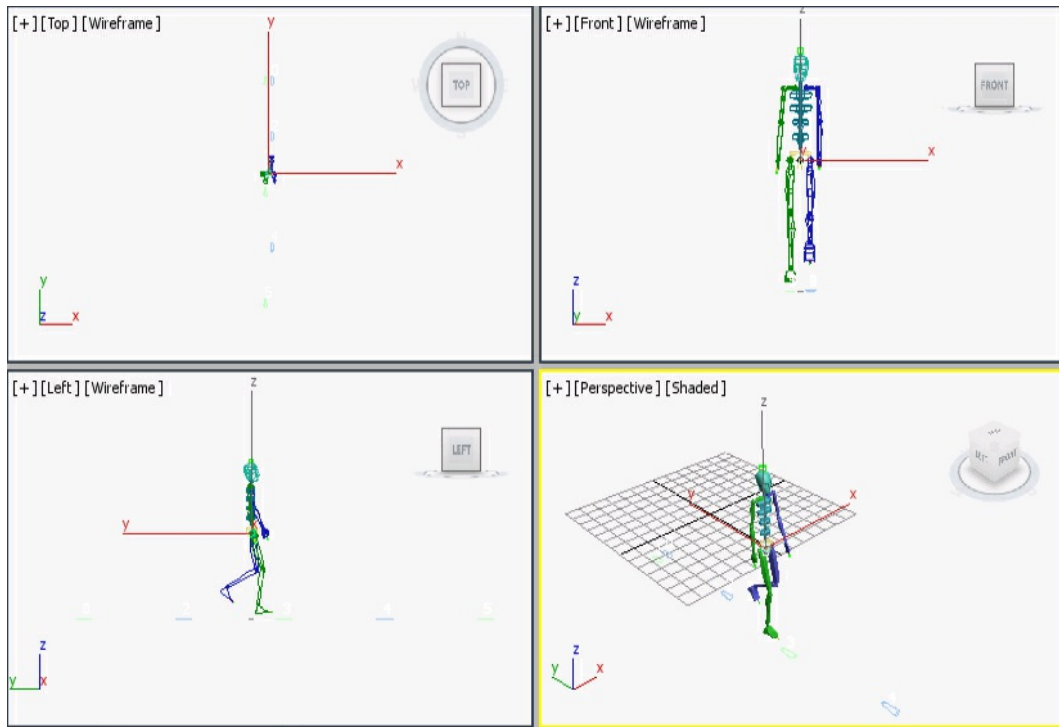

Figure 15-41 The Bip001 in running position after loading the Run.bip file
31. Choose the **Play Animation** button; the biped model starts running, as shown in Figure 15-41.